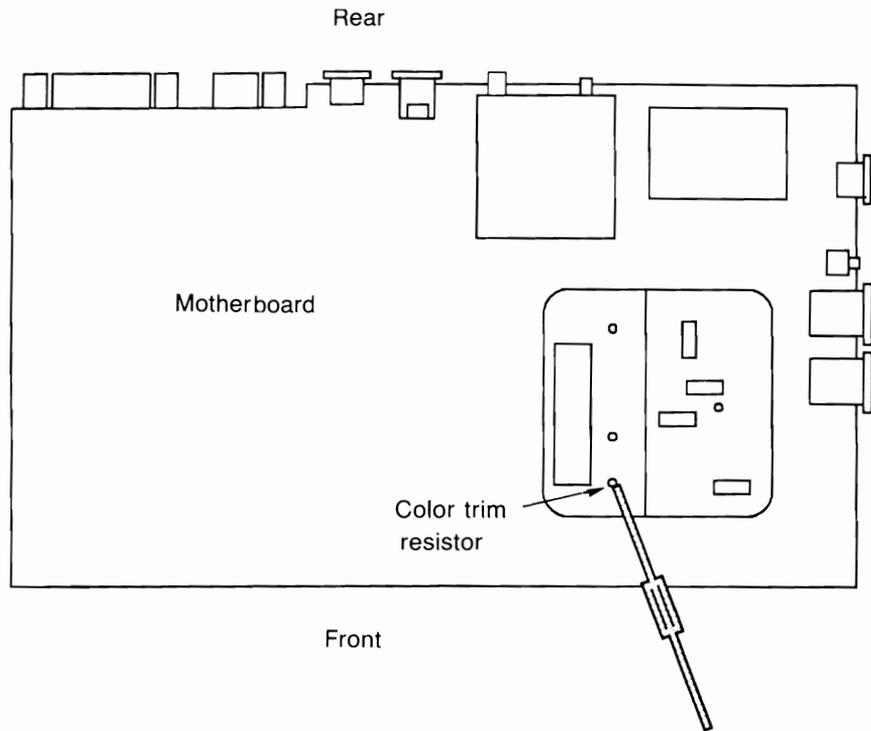

Fig. 3-9. Adjusting the color trim resistor.
5. Locate the color trim variable resistor on the motherboard (Fig. 3-9).